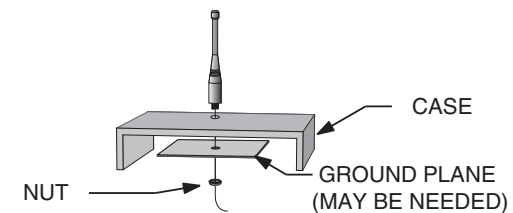

Figure 40: Remote Ground Plane
6. In some applications, it is advantageous to place the module and antenna away from the main equipment (Figure 40). This can avoid interference problems and allows the antenna to be oriented for optimum performance. Always use  $50\Omega$  coax, like RG-174, for the remote feed.